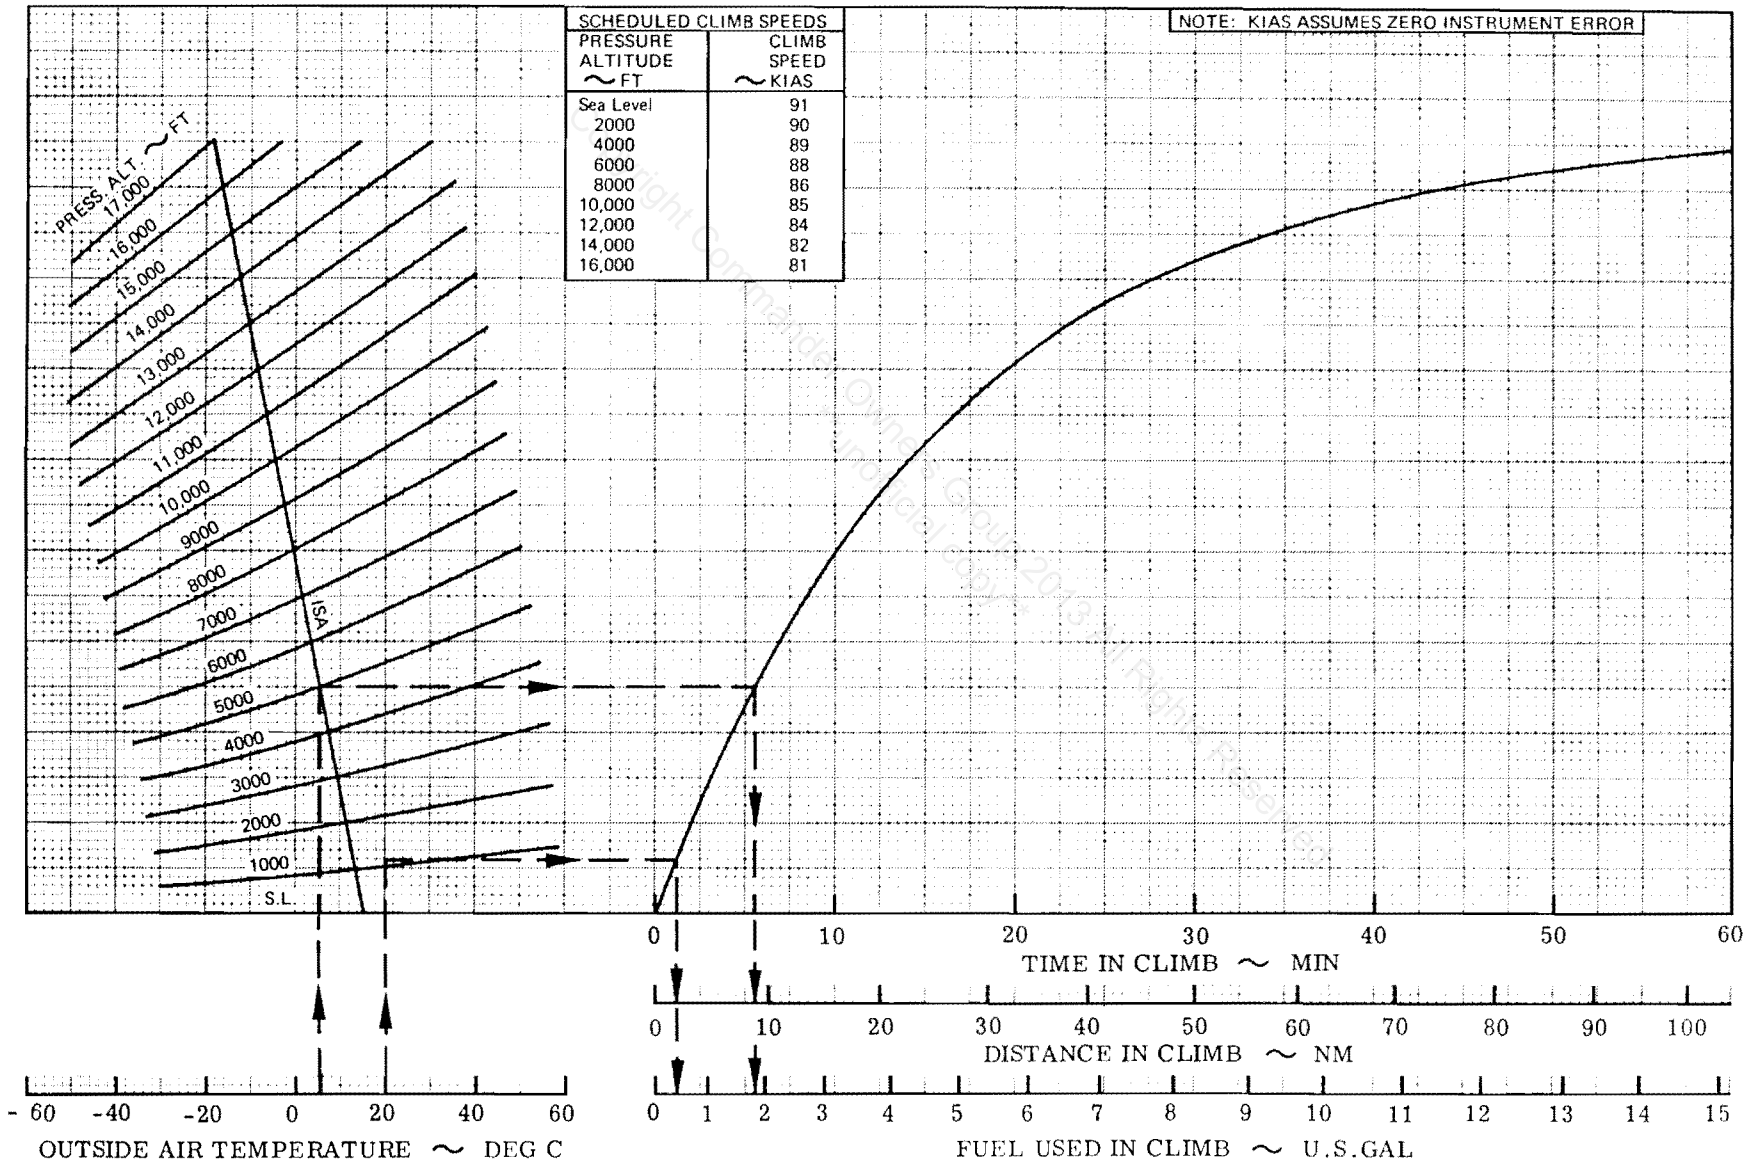

Figure 5-17.
The Time, Distance and Fuel Required in Climb for the clean configuration is shown in Figure 5-17 for varying outside air temperature and pressure altitude at 3140 Lb. takeoff gross weight. A table of Scheduled Best Rate of Climb Speeds versus Pressure Altitude is presented on the chart.
**FIND:** The total time, distance and fuel to climb from 1100 Ft to 5000 Ft from Figure 5-17.